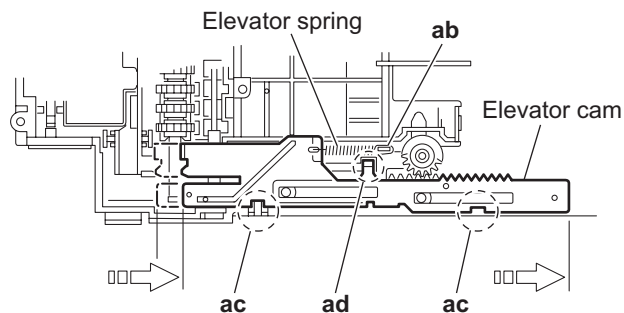

Fig.25
- (3) From the top side of the DVD changer mechanism assembly, turn the gear 1 clockwise to move the elevator cam rearward. (See Fig.25.)
- (4) Move the two slots **ac** and joint **ad** of the elevator cam and remove the elevator cam outward. (See Fig.25.)